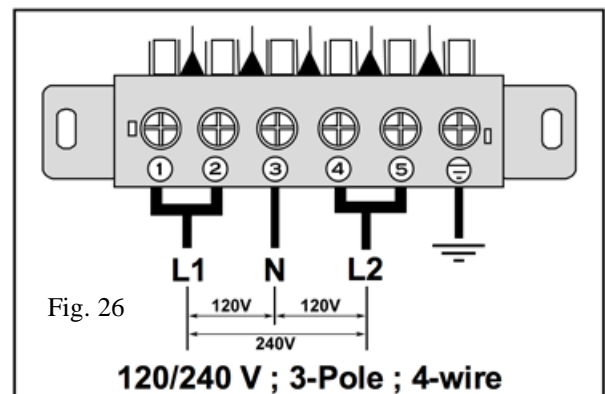

Fig. 26
- Remove access door **O** (Figure.24, all gas oven range) or **P** (Figure 26, gas & electric oven range).
- Connect to terminal block in accordance with figure 26.